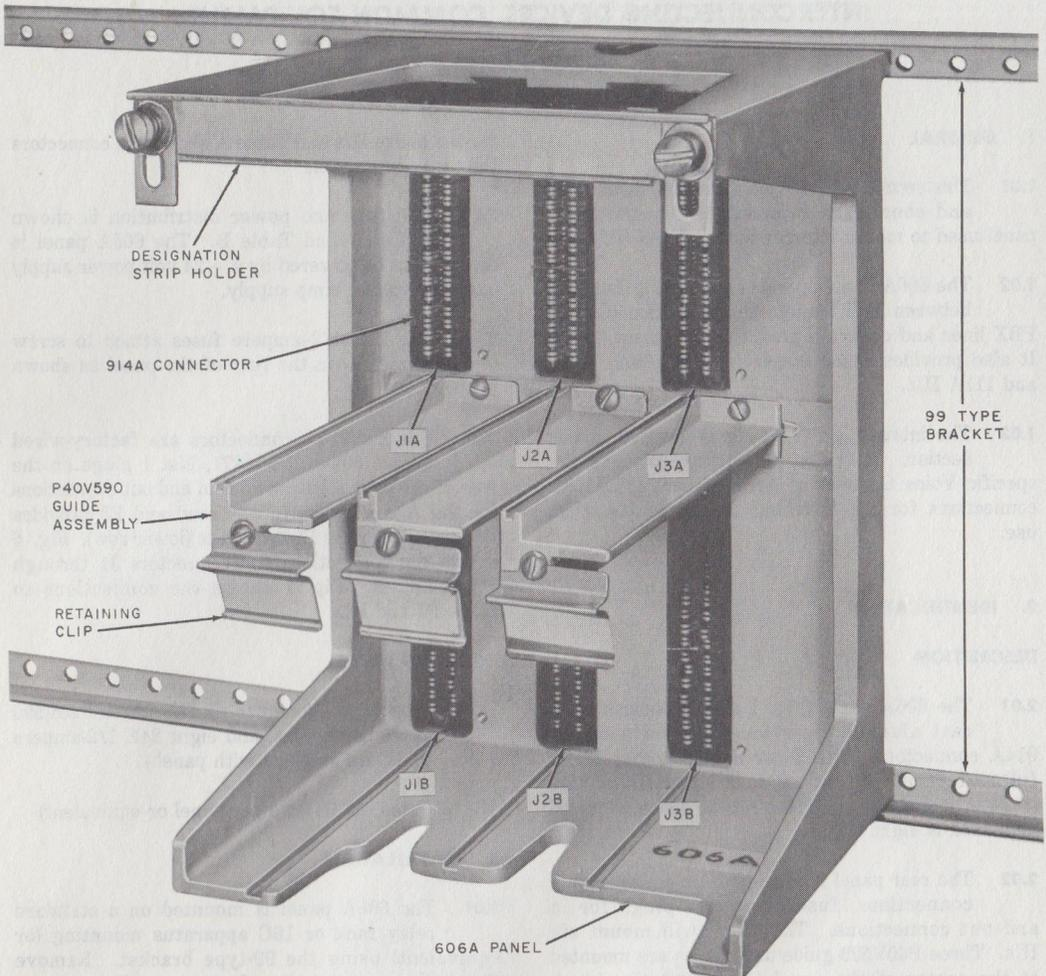

Fig. 1—606A Panel (Front View)
2.01 The 606A panel (Fig. 1 and 2) consists of a cast aluminum carrier equipped with six 914A connectors. The 6- by 8-inch carrier has a full rear panel mounted on four standoffs making it 9-1/4 inches deep. The vertical space required on a rack is eight inches.